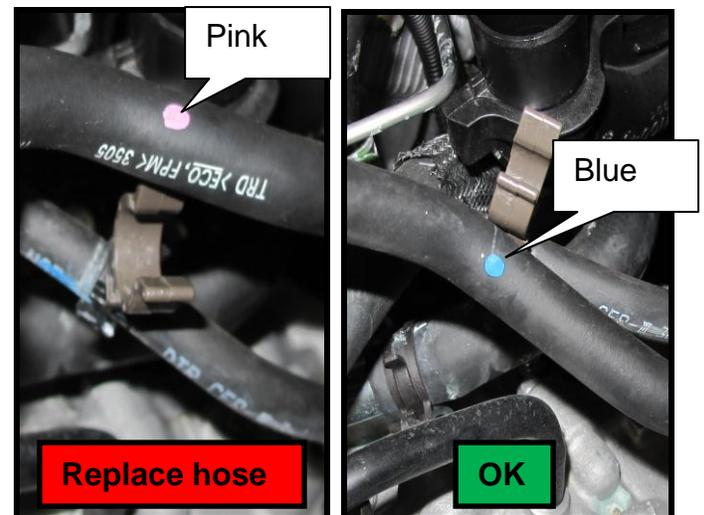

Figure 5
5. Is a **blue** paint dot present on the middle of the EVAP hose as shown in right picture of Figure 5?